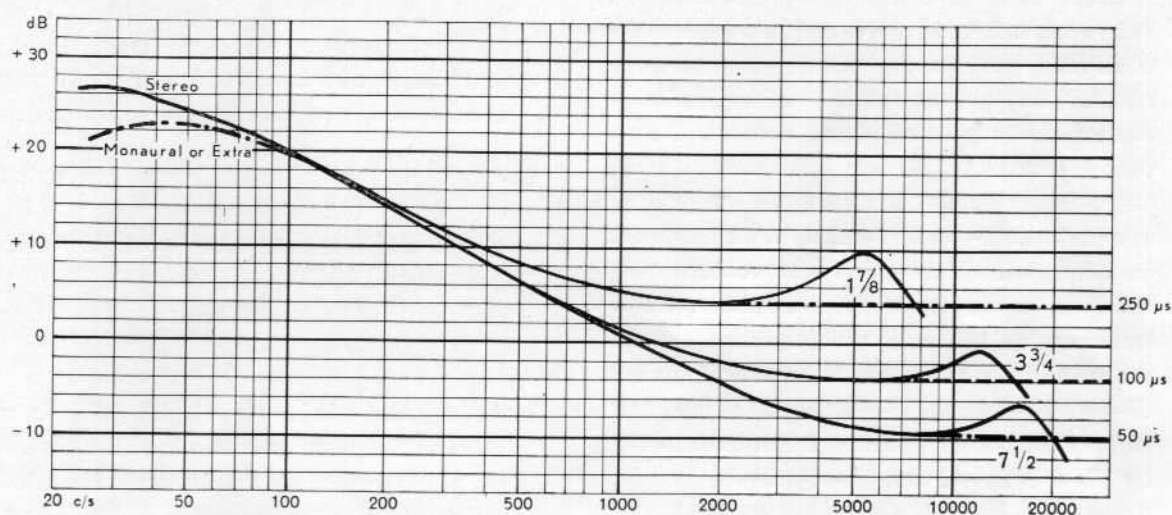

Fig. 4.
1. Adjust the oscillator frequency. A radio receiver tuned to 200 kc/s is used as an indicator. The antenna input terminals must be supplied with a signal of 200 kc/s (Droitwich or a crystal oscillator) and the oscillator coil L3 (22.1) of the tape recorder, see circuit diagram Fig. 4 and foto S.M. Fig. 21, is adjusted so its third harmonic of 66⅔ kc/s beats with the 200 kc/s signal.
2. The frequency response of the two amplifiers is checked at all three speeds. The response should correspond to the curves in Fig. 4. During these measurements the generator is connected across 1000 ohms in series with the heads and the V.T.V.M. across the corresponding output terminals. The generator voltage is regulated so that the output voltage does not exceed 3 volts at frequencies with max. gain (30—60 c/s). The stereo-monaur. switch is set to STEREO position and the loudspeaker switch (30.7) in the middle position. The gain at 1000 c/s with the volume control at max. is approx. 67.5 dB (2400 times) at 7 1/2 ips, approx. 70 dB (3150 times) at 3 3/4 ips and approx. 73.5 dB (4750 times) at 1 7/8 ips, measured from the head to the output terminals. Also check that the output voltage increases 10—12 dB at 100 c/s when the bass switch is set in position BASS in both amplifiers and at all speeds.